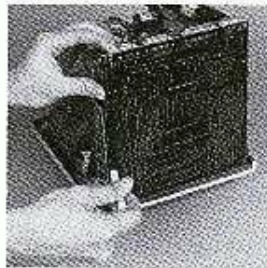

Figure 3-23
- b. Place one side of the main logic board in the guide rail and slide it into the Macintosh. Using a flat-bladed screwdriver, pry the other side of the main logic board into the guide rail. See Figure 3-23.